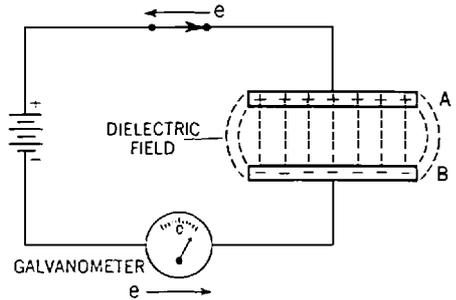

Fig. 34-2. Capacitor being charged.
**Charging a Capacitor.** Now close the switch. The positive pole of the battery, having a deficiency of electrons, pulls electrons off plate A of the capacitor, leaving a positive charge on that plate. The negative pole of the battery, having an excess of electrons, forces electrons to flow onto plate B of the capacitor, which receives, therefore, a negative charge. The meter shows this flow of electrons by the pointer's deflecting to the right, as seen in Figure 34-2.
From Figure 34-2, you see that when the capacitor is charged, the electromotive force created by the dielectric field (which is known as the counter electromotive force) is exactly equal and opposite to the electromotive force of the
**An Experiment with the Dielectric.** Suppose we connect the capacitor and the battery in the circuit again as in Figure 34-2. Now, while the capacitor is in this charged condition, let us change the material of the dielectric by inserting a sheet of mica between the
**What Is Capacitance?** From Figure 34-2, we can see that as we charge a capacitor, the dielectric field builds up a counter electromotive force which opposes the original electromotive force. The greater the electromotive force, the stronger the dielectric field and the greater the counter electromotive force. (We must take care, however, not to exceed the breakdown limit of the capacitor.) Thus, the capacitor acts to oppose any change in the voltage. This property of a circuit which opposes any change in voltage is known as *capacitance*. In direct-current circuits where the voltage is continuous and does not vary, capacitance, therefore, does not enter into their functioning. But in alternating-current circuits, the voltage is constantly changing, and here capacitance is just as important as inductance.
moment the switch is closed, there will be a flow of electrons to one plate of the capacitor and from the other plate. Thus, in effect, there will be a flow of current in the direct-current circuit except through the dielectric (Fig. 34-2). This flow will continue until the counter electromotive force of the capacitor is equal to the electromotive force of the battery. This equilibrium comes about very quickly. Then the current flow ceases.